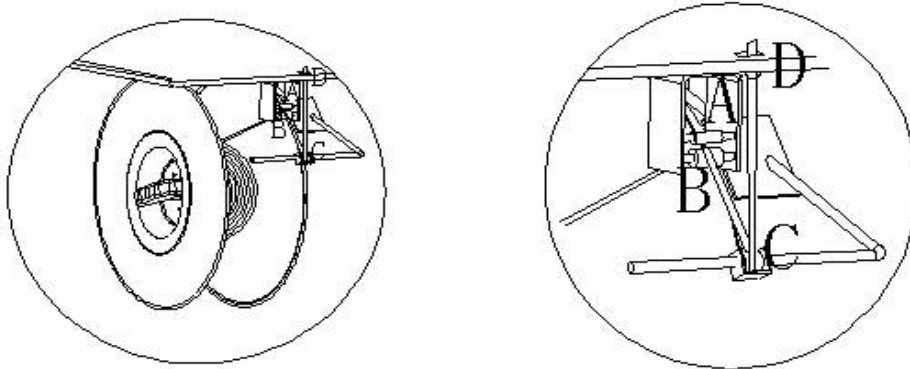

FIG 3-2
- ① Thread straps according to the method in the FIG 3-2.